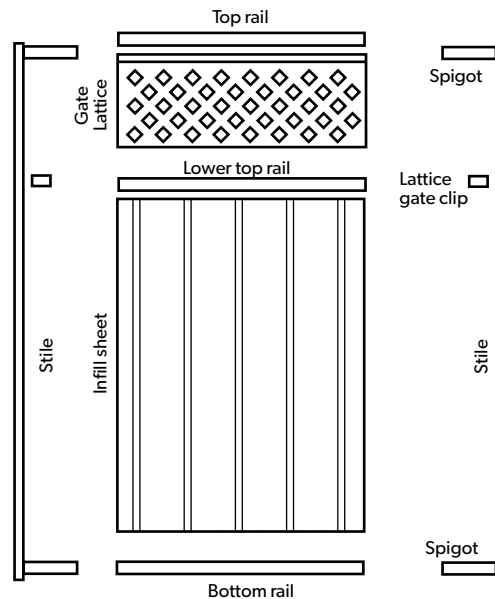

FIGURE 21.2:
4. For 'PLUS Option' (with lattice/slats) gate: Mark the position of the two lattice gate clips. Fasten the clips to the stiles using two hex. head screws (#10-16x16) for each (Figure 21.2).